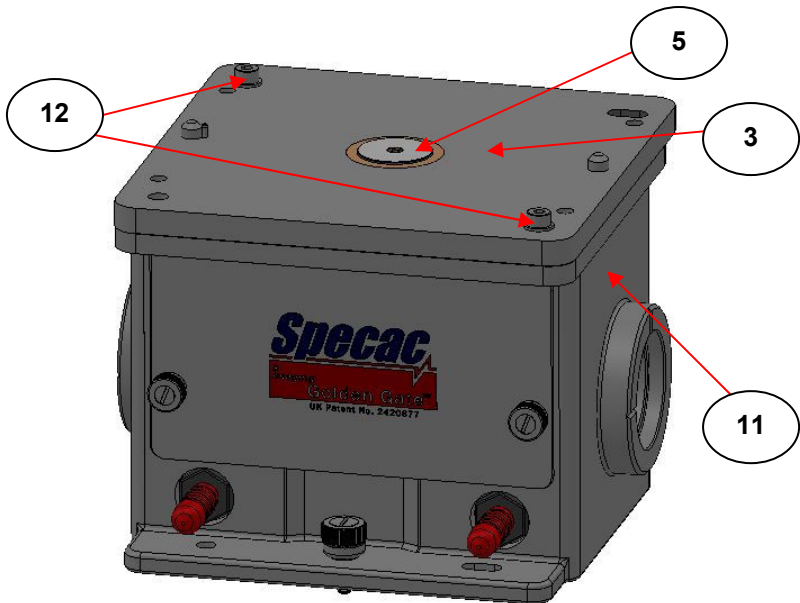

Fig 5. Low Temperature Golden Gate™ Heated Top Plate and Optical Unit
The heated top plate assembly (3) attaches to the Golden Gate™ optical unit (11) via two M4 x 16mm screws (12). (See Fig 5.) These screws are in place of the usual clamping thumb screws (see item (3) in P/N GS10500 Golden Gate™ instruction manual) and are shorter in height to allow for fixing of the cold dewar assembly part over the stainless steel heated top plate.